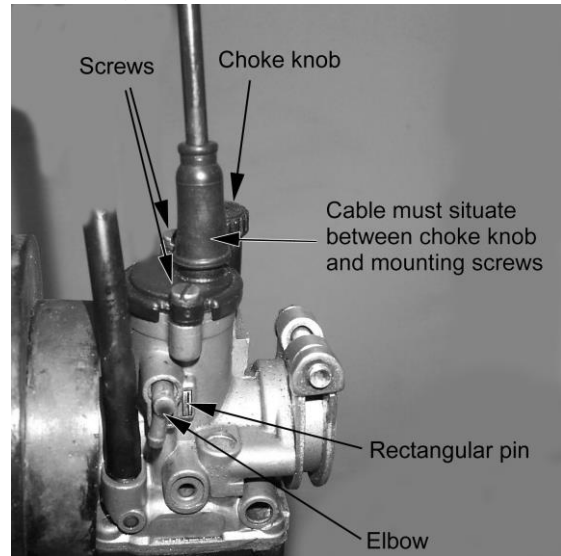

Figure 34 Proper carburetor top installation and location of rectangular slide indexing pin and vent elbows.
1. The motorcycle will only operate properly if the carburetor top is installed properly with the mounting screws, cable and choke knob oriented as shown in figure 34.